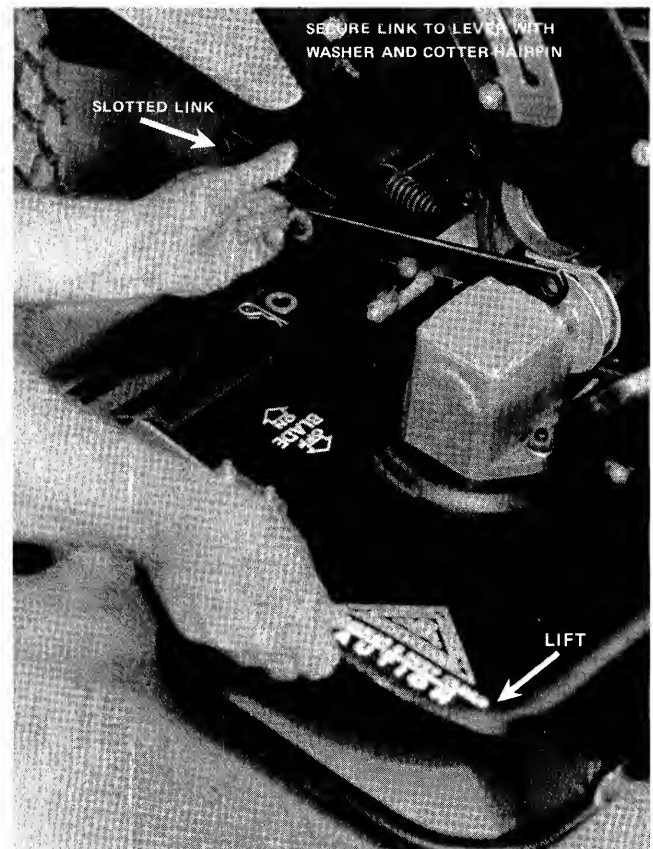

Fig. 4
6. Slide the cutting unit under the mower. From the front of the mower, grasp both front linkage arms and roll the cutting unit all the way back until it touches the tie rods and fasten both linkage arms to the pins on the mower. Secure with cotter-hairpins. See Figure 4.